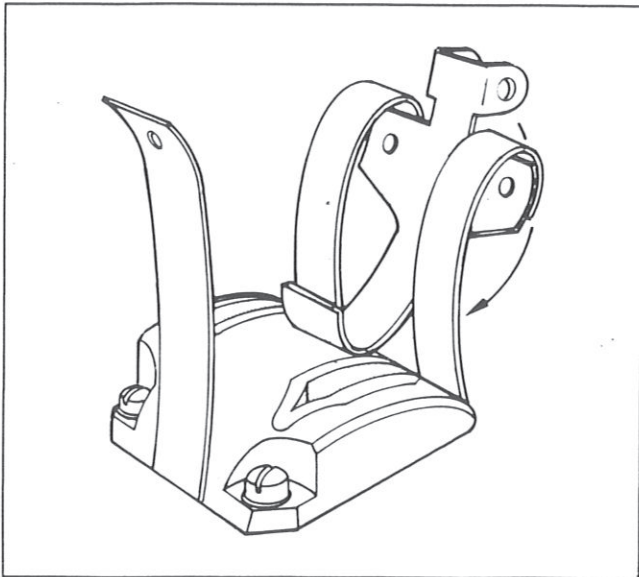

Figure 8
3. While keeping the edge bands on their rivets, gently force the rocker spring between the edge bands and over the seal block (reference, Figure 8).